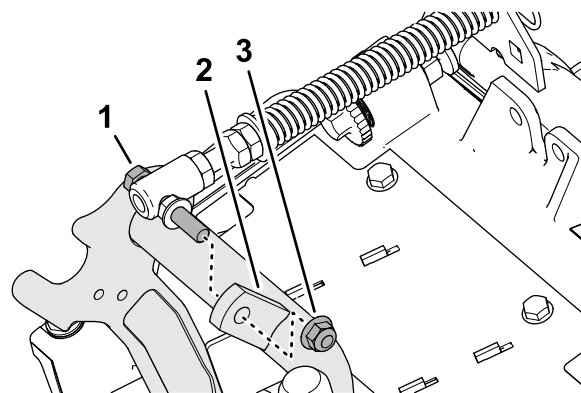

Figure 9
3. Remove the flange locknut (3/8 inch) that secures the capscrew of the turf compensation spring to the right tab of the carrier frame, and remove the compensation spring from the cutting unit (Figure 9).